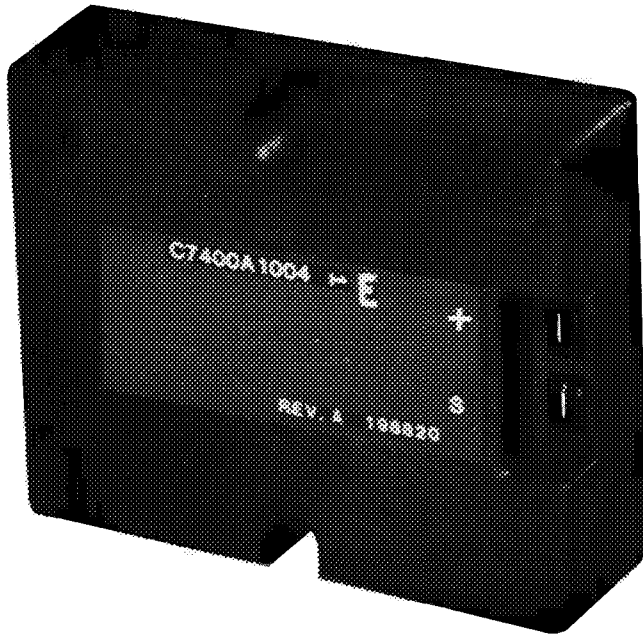
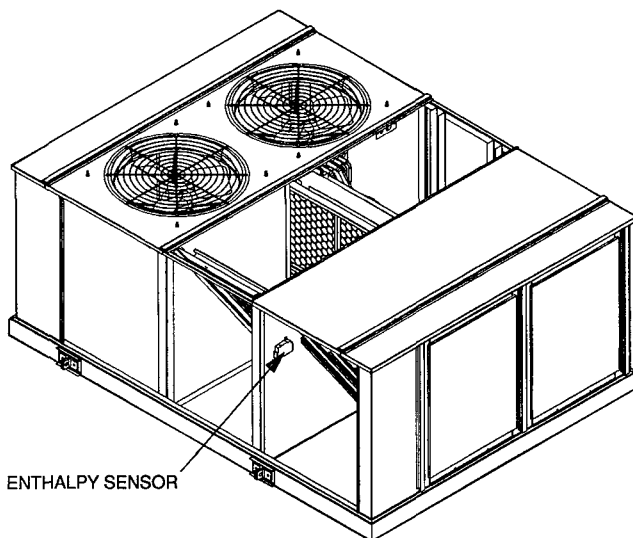
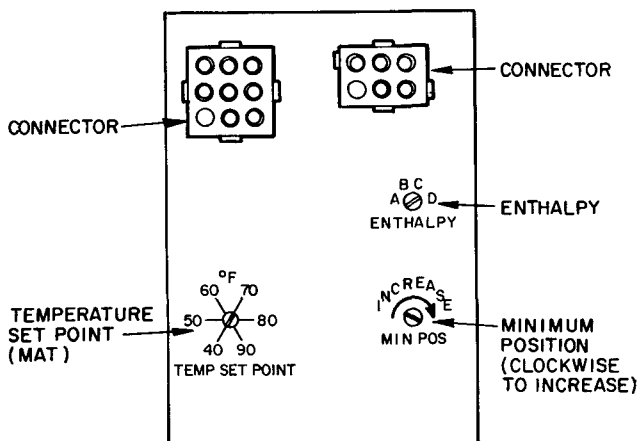

Fig. 6 — Enthalpy Sensor
Fig. 7 — Enthalpy Sensor Location
Fig. 8 — Enthalpy Sensor Setting, Mixed Air Thermistor (MAT) and Economizer Minimum Position Adjustments (Top of Economizer Motor)
**Enthalpy Sensor (Fig. 6)** — This sensor is located on the partition separating the outdoor air from the return air. See Fig. 7. The enthalpy setting adjustment is on the top of the economizer motor. See Fig. 8. For maximum benefit of outdoor air, set enthalpy control to the A setting. See Fig. 8 and 9.
**Mixed-Air Thermistor** — The mixed-air thermistor (MAT) set point adjustment is on the top of the economizer motor. This motor is located in the return-air section, and is accessed by opening the access panel marked FILTER SECTION. See Fig. 8. Set MAT set point adjustment dial to the desired setting. The factory setting is 55 F ± 5° F; the range is 40 to 90 F. The MAT is located on the filter rack.
**Minimum Damper Position Set Point** — The minimum position adjustment is located on the cover of the economizer motor. See Fig. 8. Adjust by setting the fan switch to ON position (continuous fan operation), and setting the system selector switch to OFF position. Then turn adjustment screw slowly until the dampers assume the desired vent position. Do not manually operate the damper motor, damage to the motor may result.